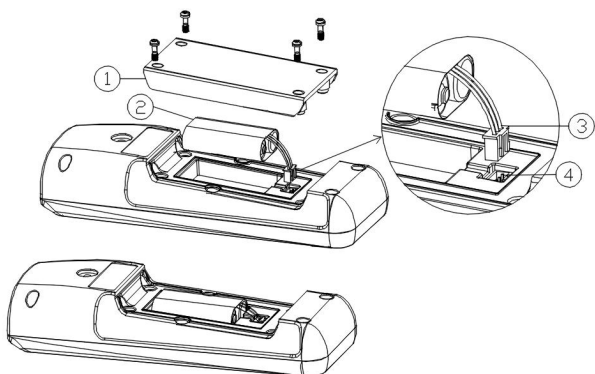

Figure 2 Battery replacement
1. Use a screw driver to remove the four screws and battery compartment cover to expose the battery compartment. (Fig.2)